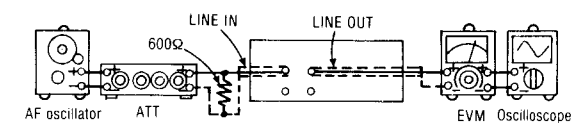

Fig. 7
1. Test equipment connection is shown in Fig. 7.
6. If it is not within the standard, adjust VR3 (L-CH) (VR4 (R-CH)) and repeat the step (2), (3) and (4) until the output is within the standard.